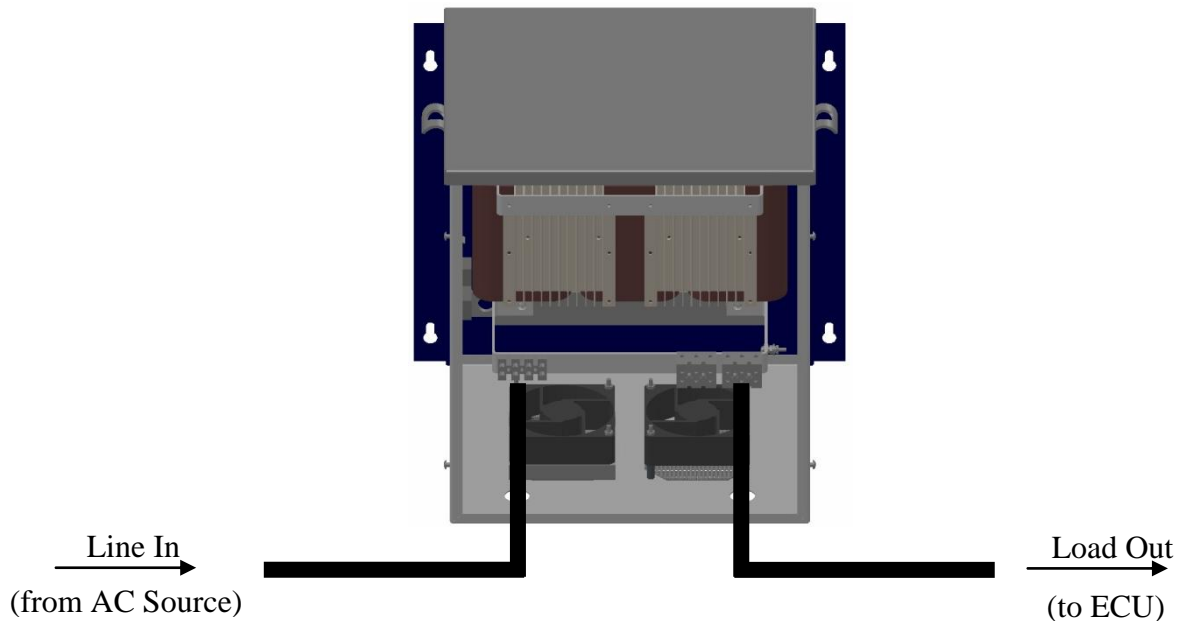

Figure 8: Line/Load Cable Routing
Step 7: To make the electrical connections from the AC source to the transformer, insert the non-metallic conduit with wiring into the left hand hole of the transformer enclosure, plus the electrical cable clamp. See Figure 8 for details. The external cover must be removed at this point via four screws.